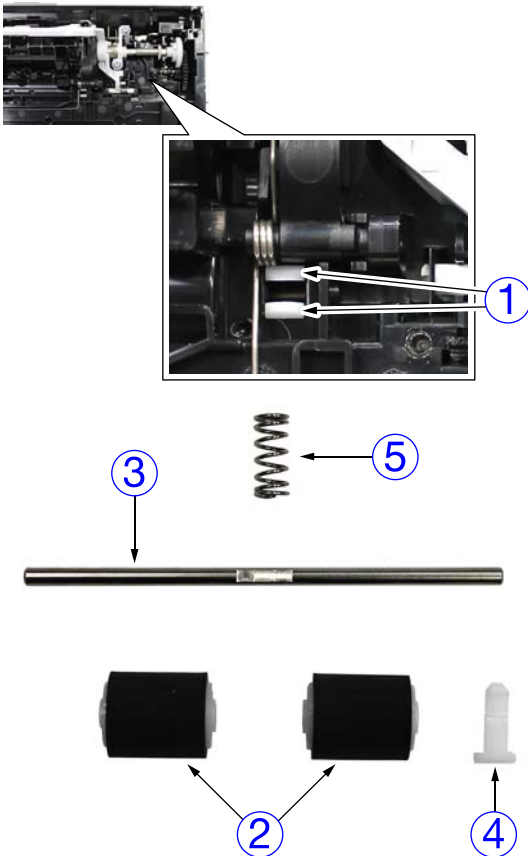

Figure 3-213
- 3) Unhooking the 2 fitting parts ① at the same time detaches the follower roller and the coil spring (Figure 3-213 ② to ⑤) in the rear side.